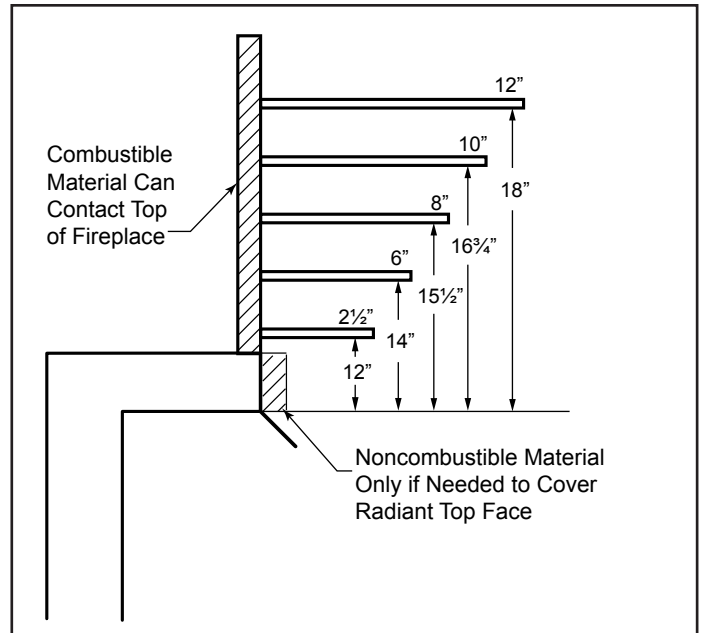

Figure 6.3 Mantel Clearances
5. **Mantel clearances:** If a combustible mantel is installed, it must meet the clearance requirements as shown in Figures 6.3 & 6.4.